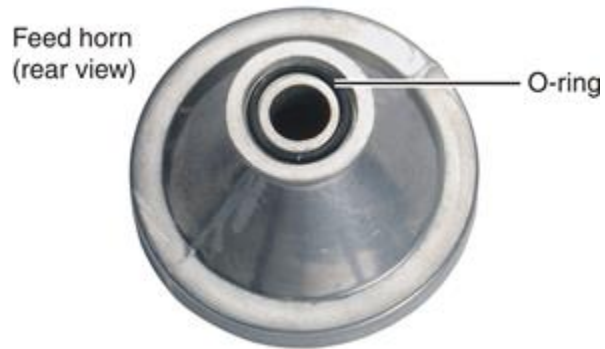

Figure 19: Insert O-ring into groove at mouth of feed horn
2. If one is not already present, insert the O ring into the groove inside the stem of the feed horn, as shown in Figure 19.